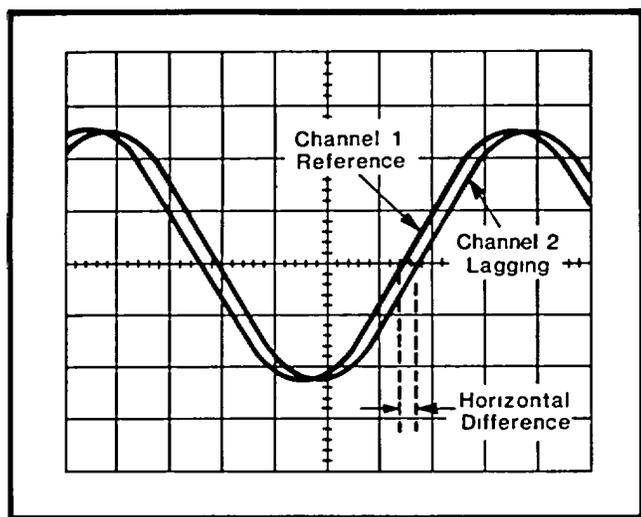
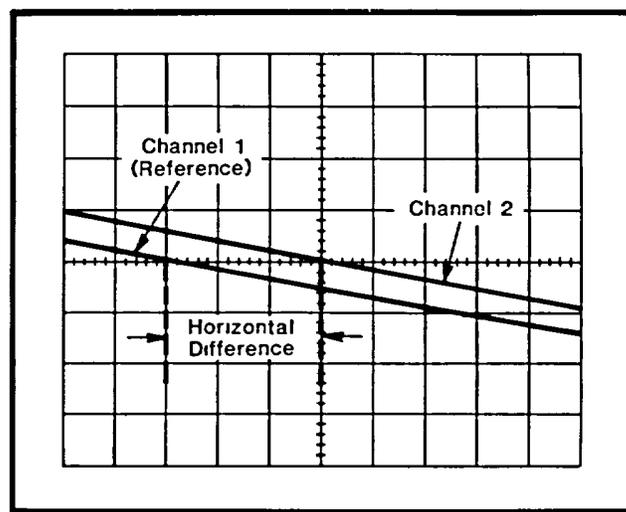

Fig. 1-6. Measuring phase difference between two signals.
Fig. 1-7. High resolution phase measurement using time-base magnifier.
8. Adjust the time-base Variable Time/Div control until one cycle of the reference signal occupies exactly eight horizontal divisions between the second and tenth vertical lines of the graticule (see Fig. 1-6). Each division of the graticule represents 45° of the cycle (360° / 8 divisions = 45°/division). The sweep rate can now be stated in terms of degrees as 45°/division.
EXAMPLE: Assume a horizontal difference of 0.3 division with a sweep rate of 450/division as shown in Fig. 1-6.
EXAMPLE: If the sweep rate is increased 10 times by the Magnifier, the magnified sweep rate is 450/division ÷ 10 = 4.5°/division. Fig. 1-7 shows the same signals as used in Fig. 1-6 but with the Magnifier set to x10. With a horizontal difference of 3 divisions, the phase difference is: